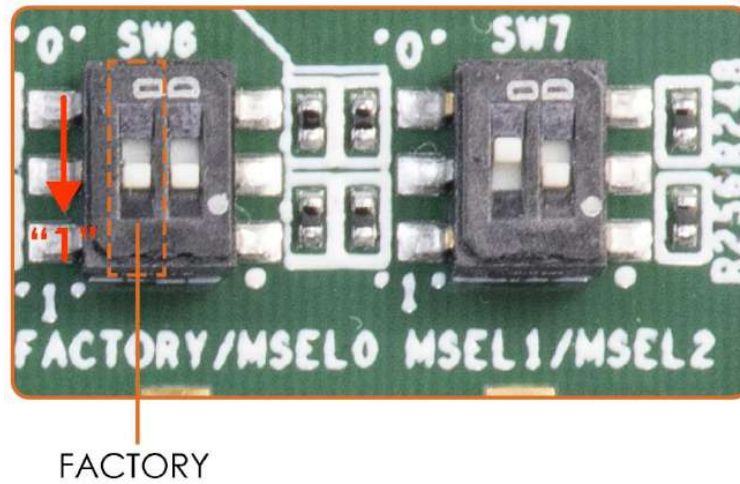

Figure 4-4 Configuration Image Selection
3. Specify the configuration of the FPGA using the default Factory Configuration Image or User Configuration Image by setting SW6 according to **Figure 4-4**. When the switch is in position “1”, the factory image is used when the system boots. When the switch is in position “0”, user image is used when the system boots.